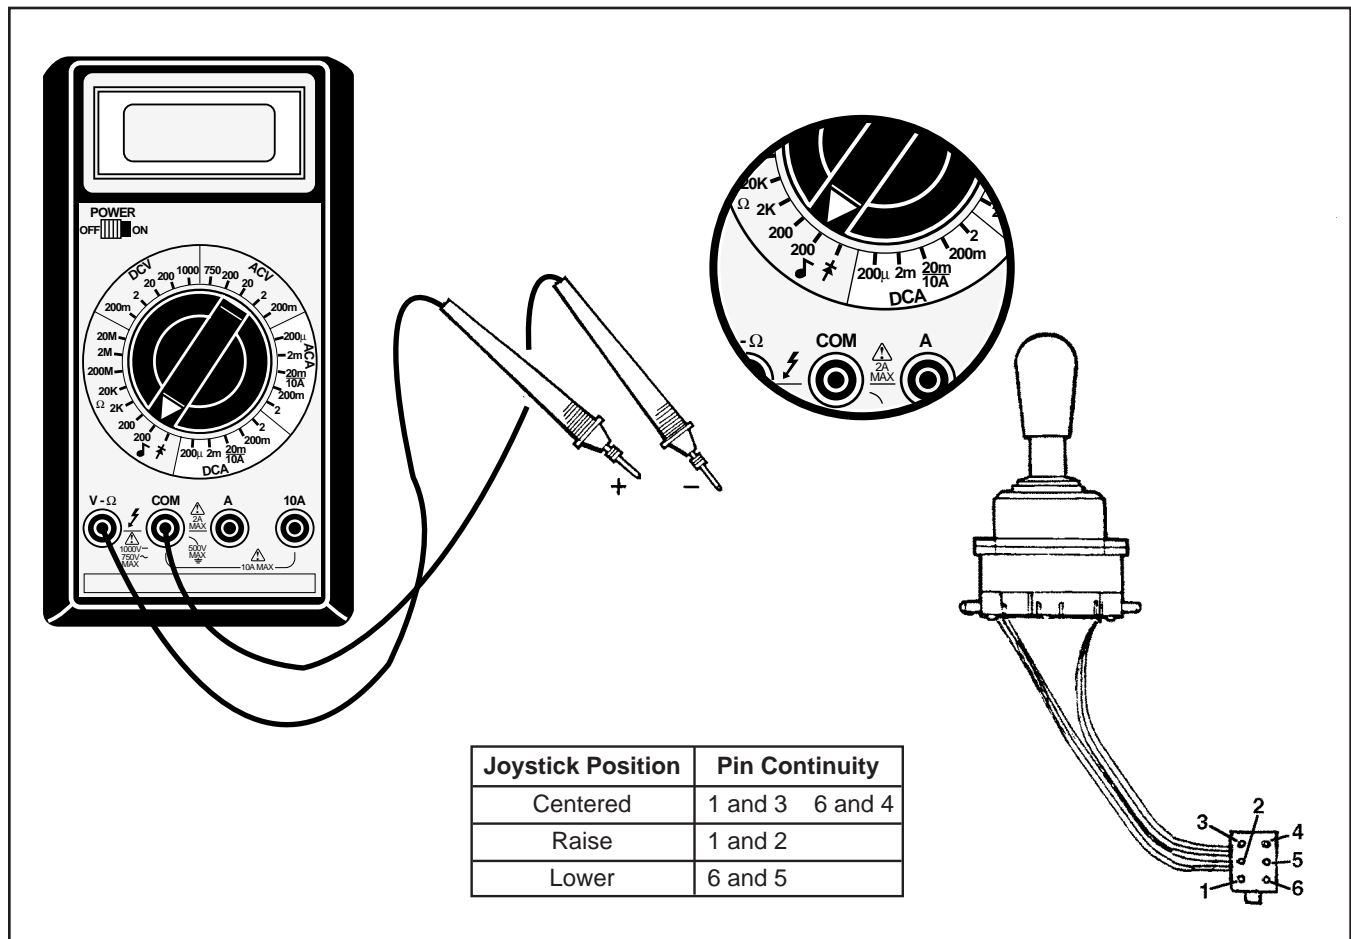

Figure 10G-8. Lift/Lower Joystick Test (Late)
3. Using the continuity table on Figure 10G-8, connect multimeter test leads to indicated pins.
PARKING BRAKE, LIFT ARM AND NEUTRAL START LIMIT SWITCH TESTS (See Figure 10G-9)